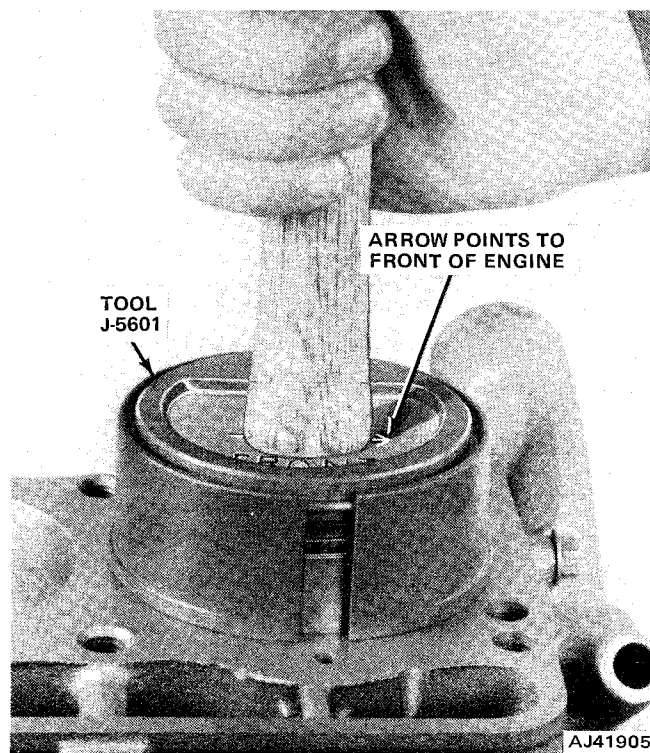

Fig. 1B-36 Piston Installation
- (1) Clean cylinder bores thoroughly. Apply light film of clean engine oil to bores with clean, lint-free cloth.
- (2) Install piston rings on pistons. Refer to Piston Rings for sequence.
- (3) Lubricate piston and rings with clean engine oil.
- (4) Use Piston Ring Compressor Tool J-5601 to install connecting rod and piston assemblies through top of cylinder bores (fig. 1B-36).